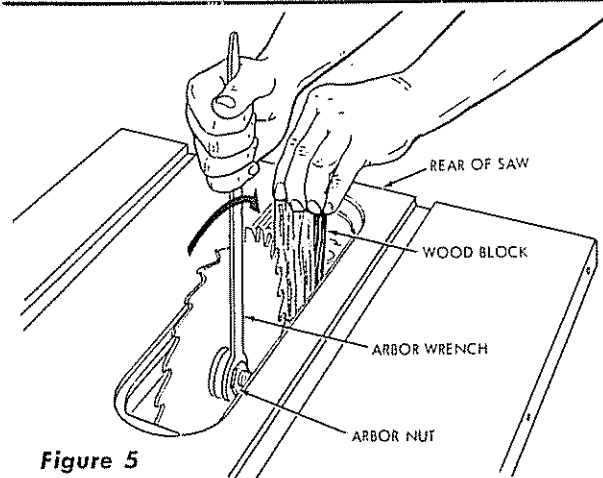

Figure 5
6. Check tightness of saw arbor nut by wedging a small block of wood between the saw blade and table opening, as shown in figure 5, and, using the arbor wrench supplied with the saw, tighten the nut. (The nut rotates clockwise to tighten.)